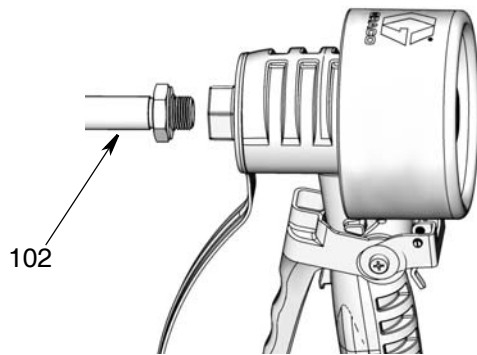

FIG. 5
- b. Thread extension (102) into meter housing as shown in FIG. 5 until it bottoms out.